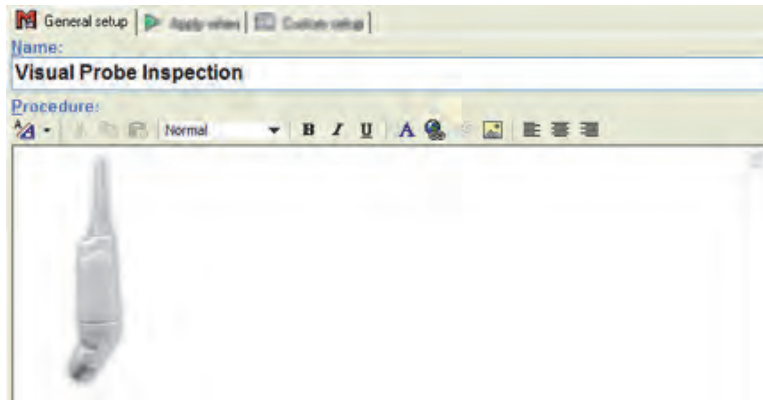

Figure 3-16. Procedure with Picture inserted
8. Click **OK** and the selected picture is displayed in the test element procedure as shown in Figure 3-16.